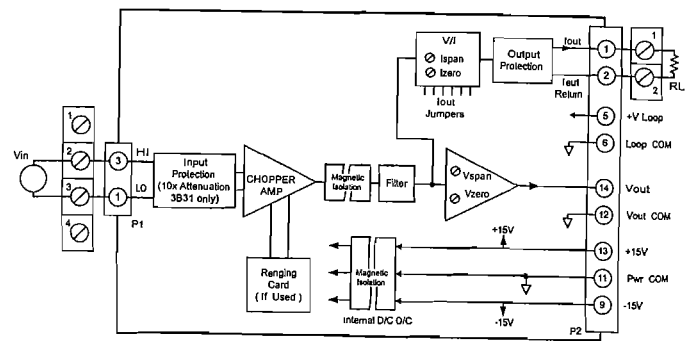

Figure 2.1.8.1 3B30 and 3B31 Functional Block Diagram
1. Connect model 3B30 (3B31) as shown in Figure 2.1.8.1 with  $R_L = 250\Omega$ .